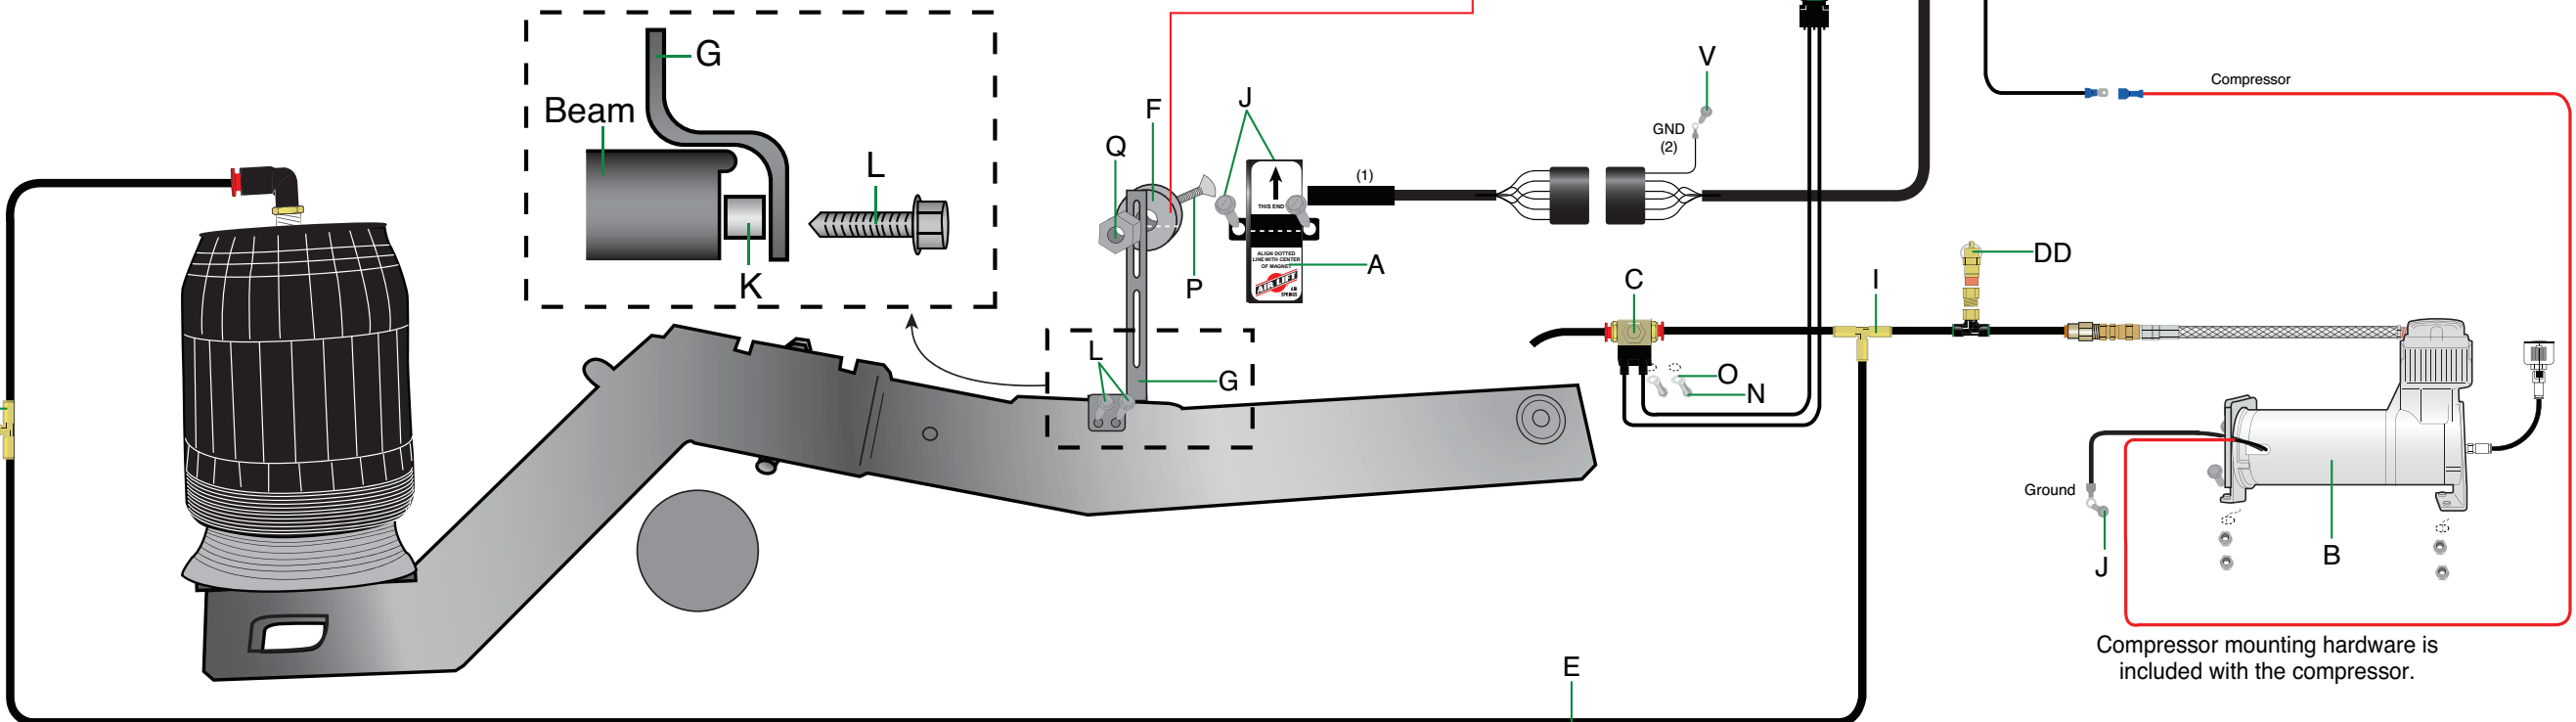

Figure 4
7. Using a butt connector, attach the 12 gauge wire from the terminal 30 on the back of the relay to one end of the 30 amp fuse holder (Figure 4).
8. If choosing to use the ring terminal, attach it to the other end of the fuse wire (Figure 4).
to terminal 1b of the kneeling switch (Figure 12). Using the black wire with two female ends, connect one end to terminal 1 of the kneeling switch and the remaining end to terminal 86 of the relay (Figure 4).
13. Connect the black ground wire to terminal 2a of the kneeling switch and attach the ground terminal to a suitable ground using the provided self-tapping screw (Figure 4).